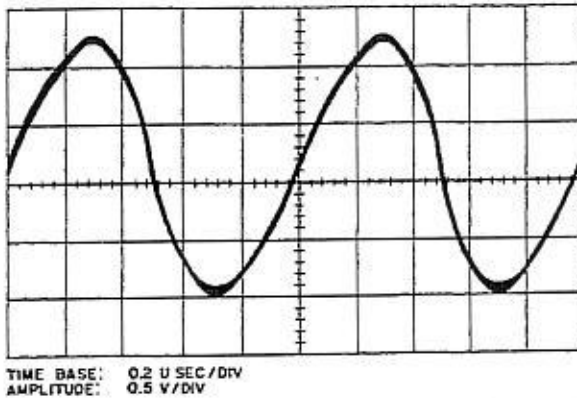

Figure 6.7 – Frequency Standard, Output at P43, Waveform
a. Connect oscilloscope to center conductor of P43 (on Divider/Spectrum generator assembly) from Frequency Standard. The observed 1 MHz waveform should resemble the one shown in figure 6.7.